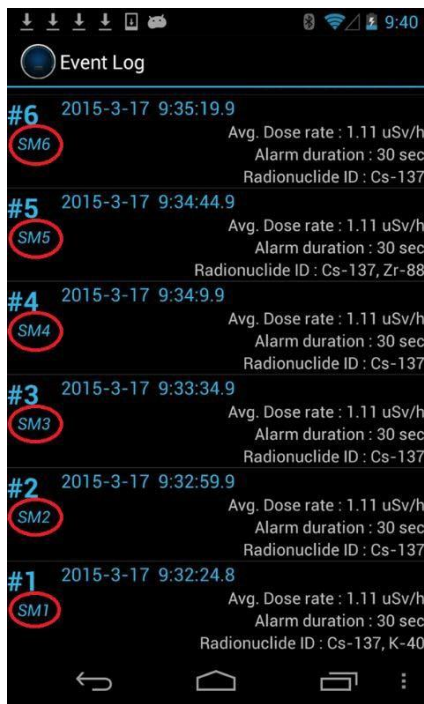

Figure 4.29. Sequential mode Event Log list example
10. You may view saved sequences in the same way you view events (touch the menu button  and select **Setup & Event**, then select **Event Log**). Events captured in Sequential mode are labeled with the additional designation “SM#” (Figure 4.29).